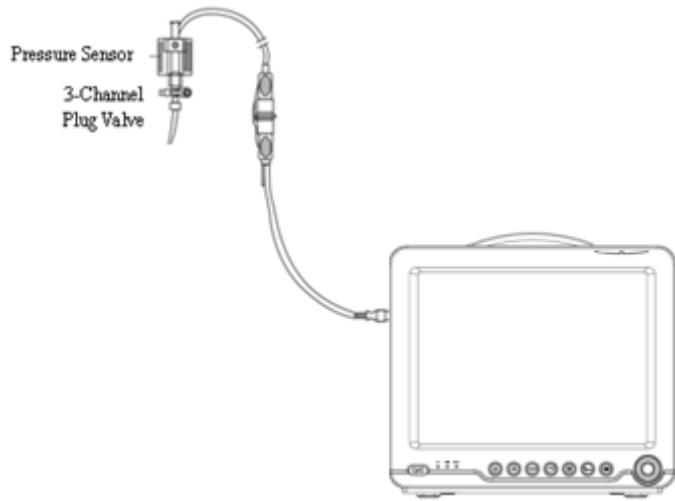

Figure 6.41 IBP Zero Calibration
1. Connect the pressure sensors, sensor cables and the monitor as referred to Figure 6.41.